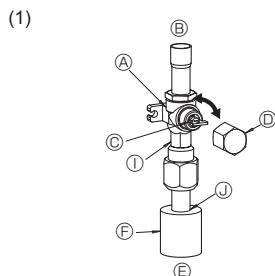
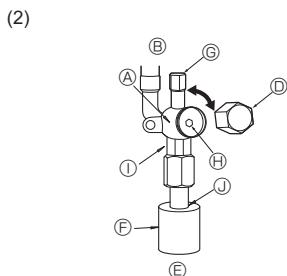

Fig. 4-6
Fig. 4-7
- (1) Gas side of ZRP100-140 (Fig. 4-6)
- ① Remove the cap, pull the handle toward you and rotate 1/4 turn in a counter-clockwise direction to open.
- ② Make sure that the stop valve is open completely, push in the handle and rotate the cap back to its original position.
- (2) Liquid side of ZRP100-140 and Gas/Liquid side of ZRP35-71 (Fig. 4-7)
- ① Remove the cap and turn the valve rod counterclockwise as far as it will go with the use of a 4 mm hexagonal wrench. Stop turning when it hits the stopper. (ø9.52: Approximately 10 revolutions)